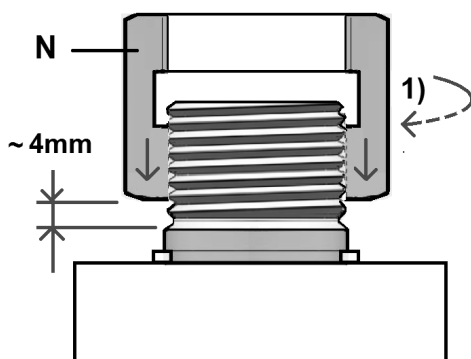

Fig 10
1) Install the arbour nut (N, Fig 10) to the machine spindle. Keep approx. 2 turns (4mm) distance to the end of spindle nose thread.